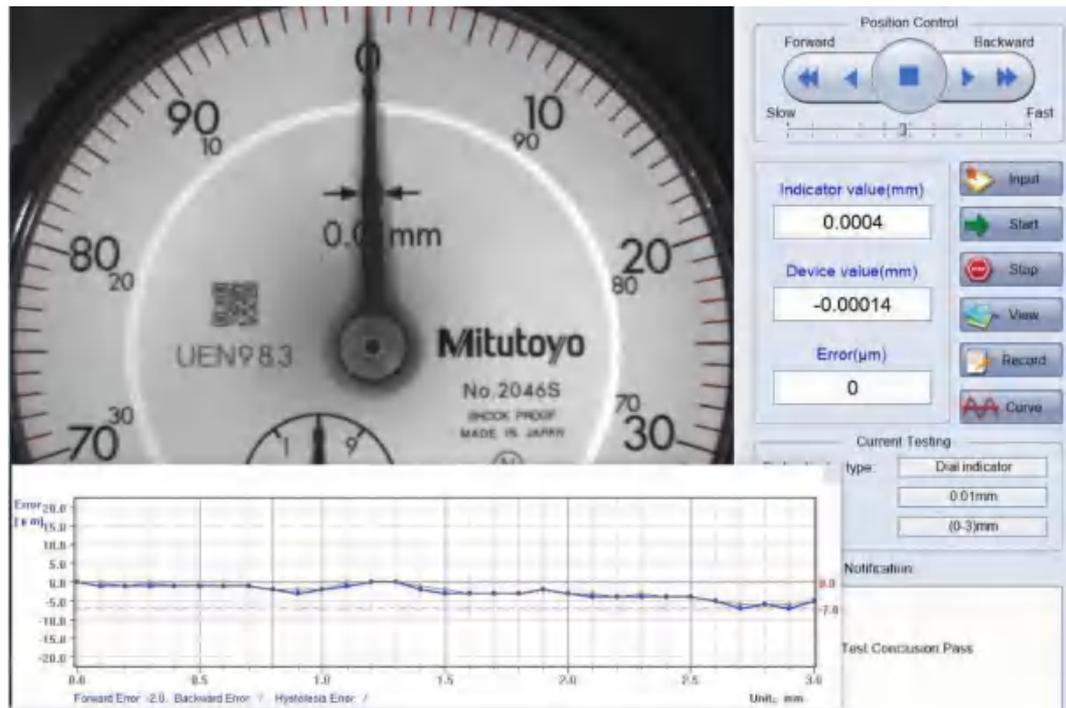

Figure 5-11 Measurement finished
6. After measurement, click “Record management” to view the measured data. And the “Measurement guidance” window will show the measurement results. See figure 5-11.